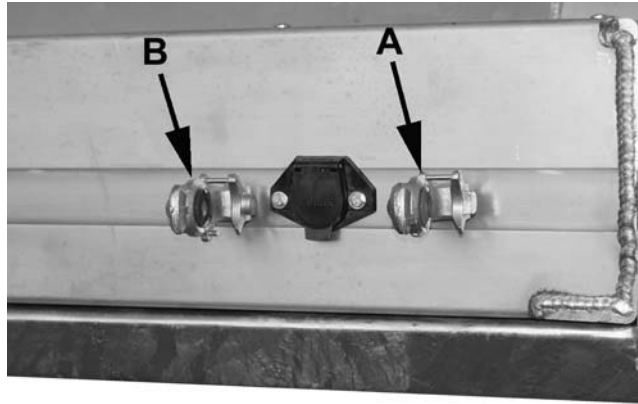

Figure 3-7 – Connect Hoses and Electrical Connector
12. Connect the supply hose to glad hand (A), service hose to glad hand (B), electrical cable to connector, and if equipped, connect hoses to the lift axle glad hands. See Figure 3-7.